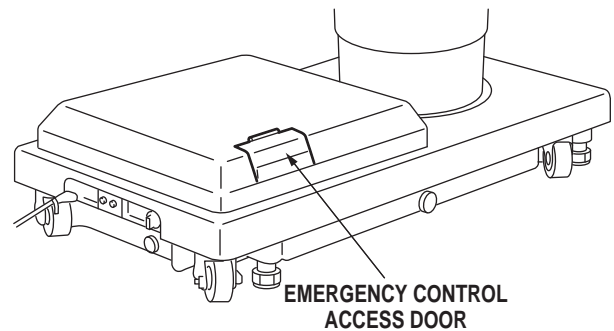

Figure 2-15. Emergency Controls Location
**a.** The emergency back-up control switches are located under the access door on the service access cover in the table base. See figure 2-15.